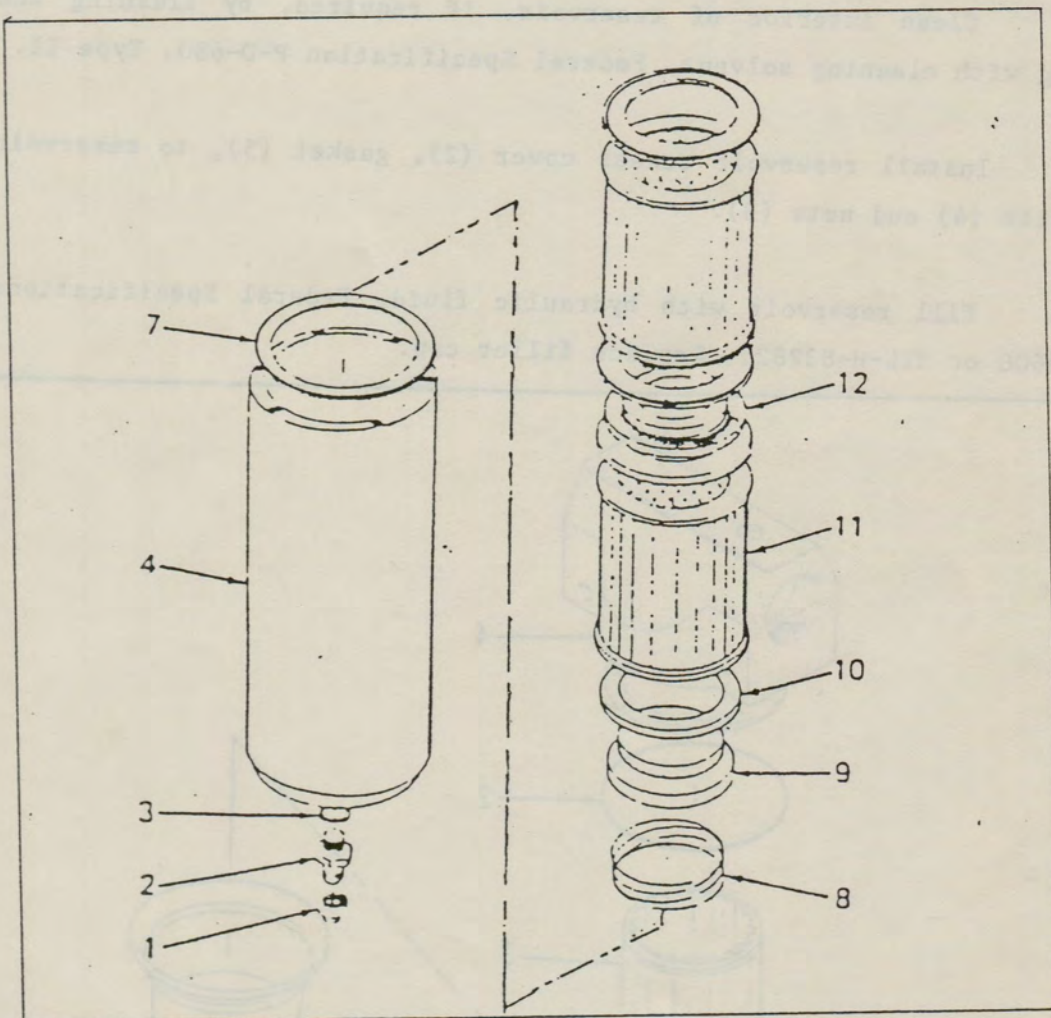

Figure 5-6. Low Pressure Filter Assembly
- e. When pressure drop reaches 30 psig, replace filter elements as follows (see Figure 5-6).